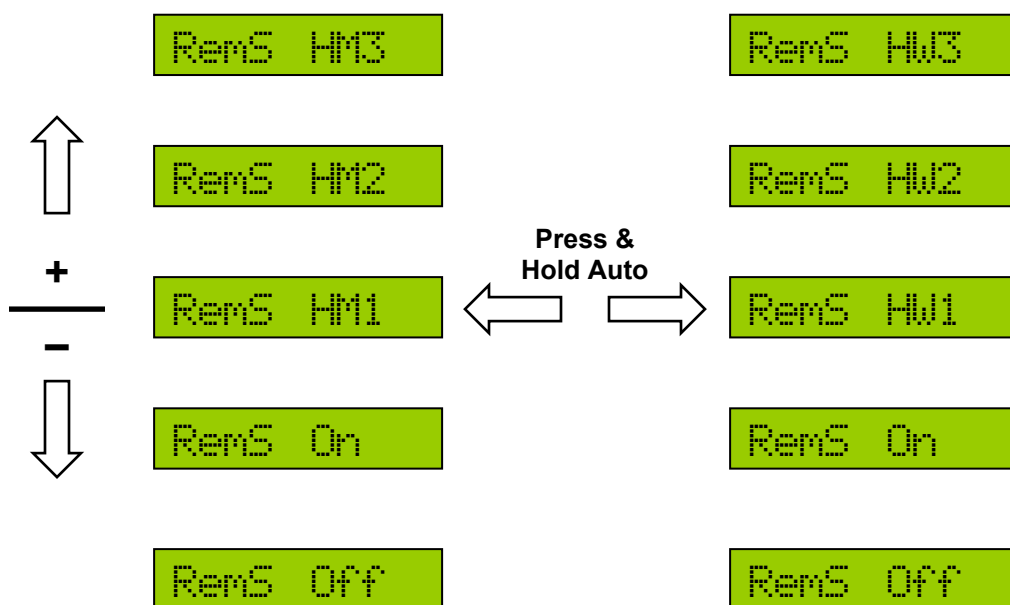

Figure 14: Headland Assist and Remote Switch Menu
- Toggle "SETUP (NO)" until the display says "Other?". Toggle "AUTO (YES)" to confirm.
- The setting is selected when you leave the Headland Assist menu by pressing and holding "SETUP (NO)" / "SENSOR DISPLAY" or just toggling the "SETUP (NO)" / "SENSOR DISPLAY" switch.
- By pressing and holding "AUTO (YES)" at any time in the Headland Assist menu, you can switch between the wings only mode and the main lift mode. **Figure 14** shows the menu structure for the Headland Assist menu.